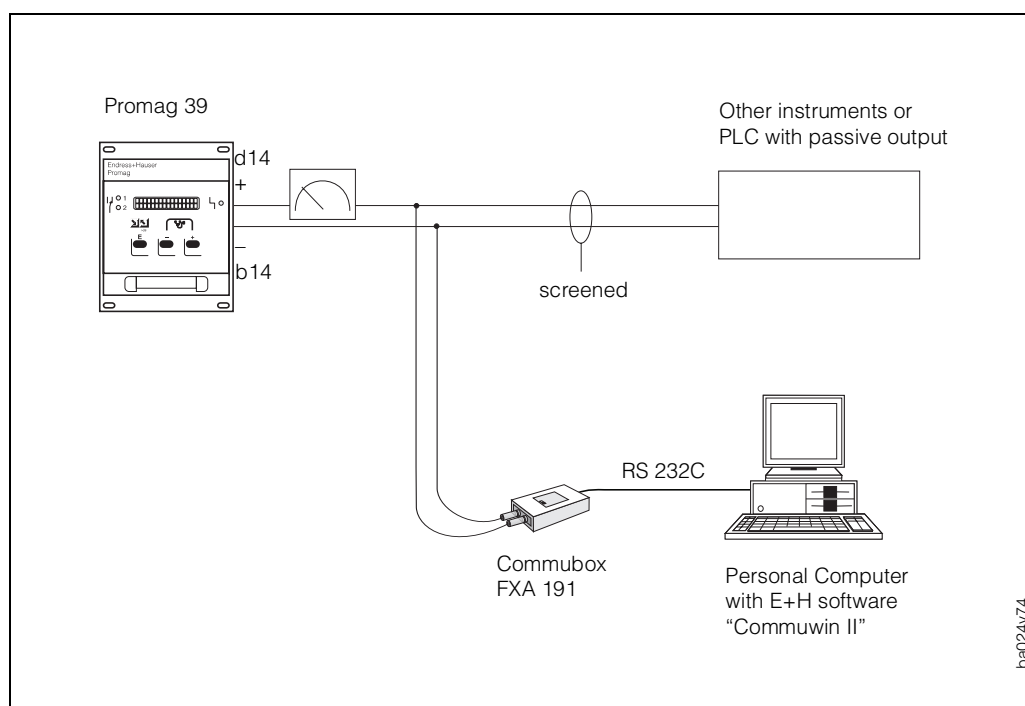

Fig. 44
- Connection via the analogue 4...20 mA cable of current output (see Fig. 44).